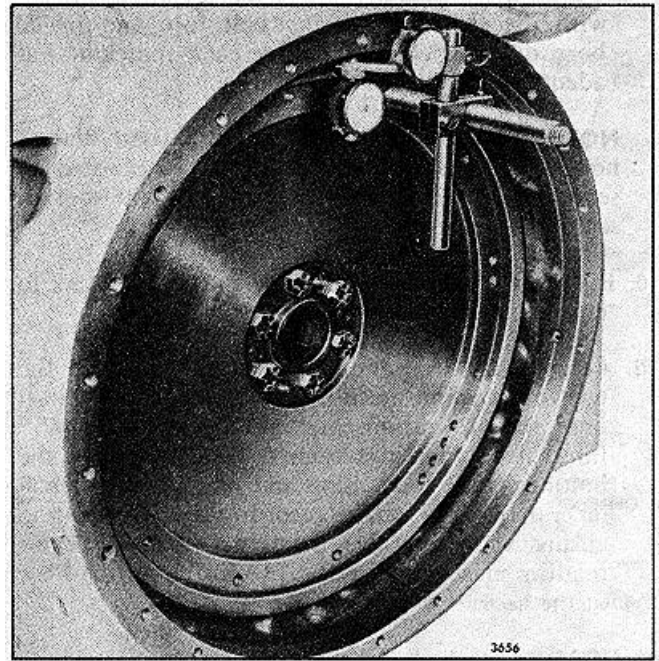

FIG. 6 - Checking Flywheel Housing Concentricity using Tool J 9737-01
- a. Refer to Fig. 6 and thread the base post J 9737-3 tightly into one of the tapped holes in the flywheel. Then assemble the dial indicators on the base post.